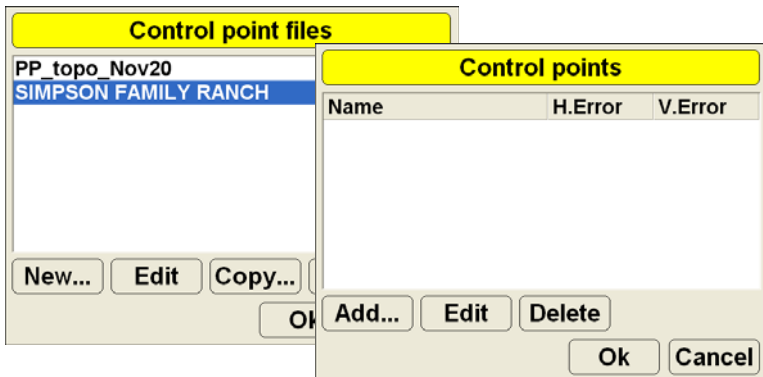

Figure 3-2. Edit Control Point File
4. Select the newly created control point file and press **Edit** (Figure 3-2).